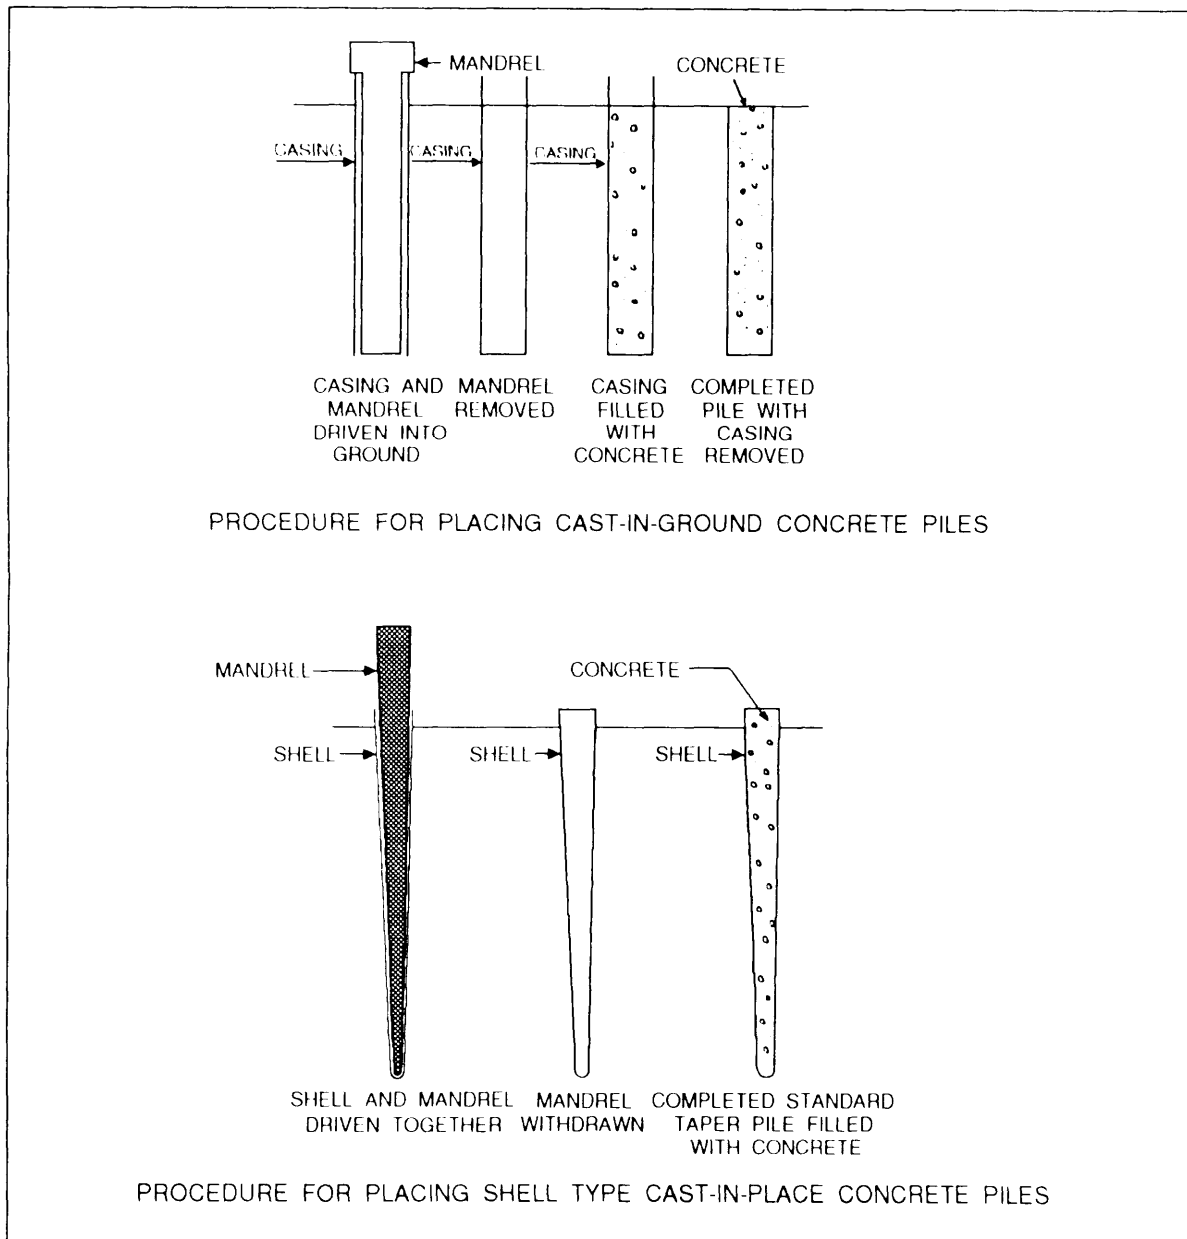

Figure 12-77.—Cast-in-place concrete piles.
• Cast-in-place concrete piles may be used when conditions are favorable. They are made by pouring concrete into a tapered hole or cylindrical form previously driven into the ground or into a hole in the ground from which a driven mandrel has been withdrawn. The left-in-place form may be a steel shell heavy enough to be driven without a mandrel, or it may be a steel form designed for driving with a mandrel that is removed on completion of driving (fig. 12-77).